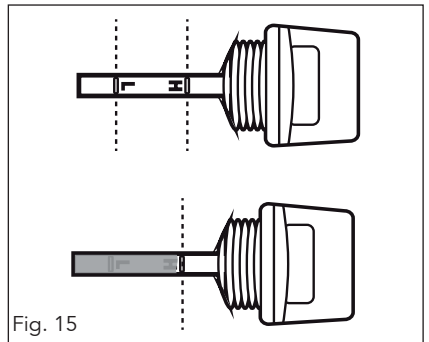

Fig. 15
3. If the oil level is below the end of the dipstick, refill (use a funnel, do not tip wood chipper) until it registers on the halfway mark of the dipstick (fig. 15). Use premium quality 4-stroke engine oil. Recommended SAE30 or 10W30 for most climate conditions in Australia.